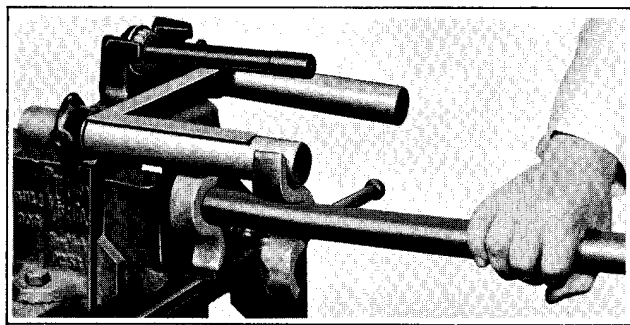

Figure 2-32. Bending Bracket Legs Parallel
5. Use a square to check if bracket assembly is bent, distorted or out of parallel on a horizontal plane as shown in Figure 2-32. Place bracket and bar assembly in a heavy vise and straighten using the Bending Bar.